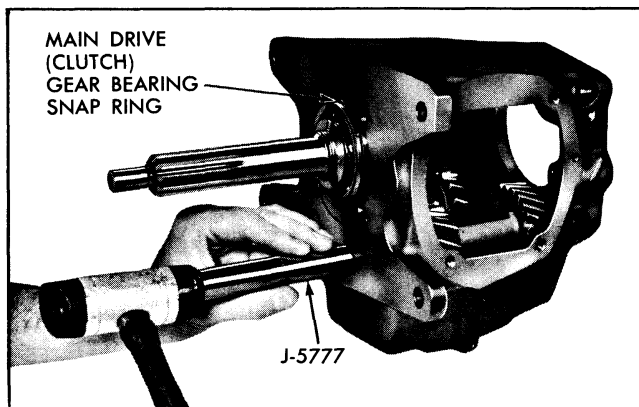

Fig. 7-18 Driving Countershaft Out of Transmission Case
11. Remove main drive (clutch) gear bearing snap ring (Fig. 7-18).